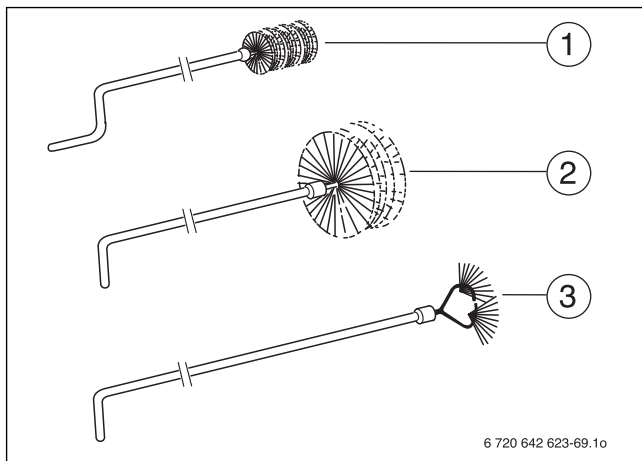
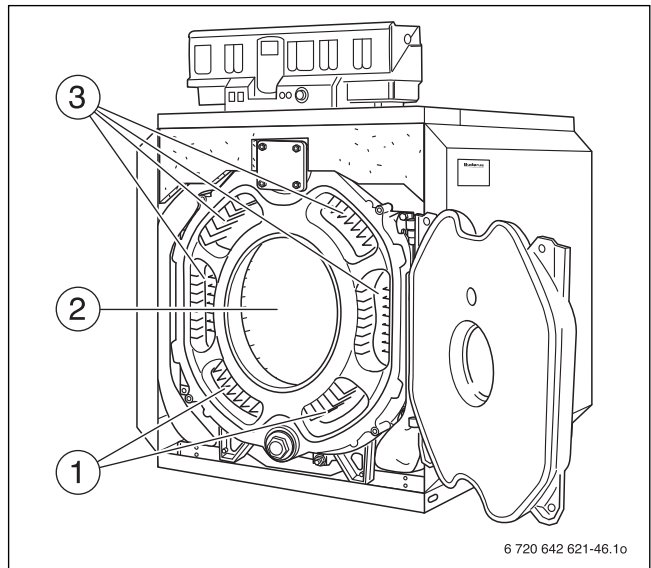

Fig. 62 Cleaning brushes
Fig. 63 Heat exchanger heater flue, cleaning
The various brush types available from **Buderus** (optional extras) are shown in Fig. 62.
- ▶ Clean the flue gas passages (Fig. 63, [1]) starting at the front and working towards the back with cleaning brushes 1 and 2 (Fig. 62).
- ▶ Clean the rest of the combustion chamber (Fig. 63, [2]) with cleaning brush 2.
- ▶ Clean the bottom flue gas passages from the front with cleaning brush 2 (Fig. 63, [1]).